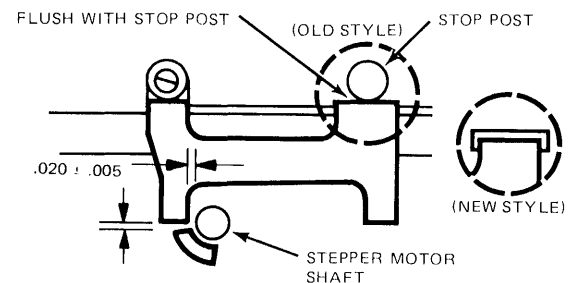

FIGURE 6. CARRIAGE LIMITER ADJUSTMENT
- Position the stop until it is flush with stop post (old style) or in the slot (new style) on the carriage assembly. Reference figure 6. Adjust the track zero carriage limiter horizontally and vertically until there is  $.020 \pm .005$  between the stop on the acuator cam and the stepper motor shaft. Reference figure 6.